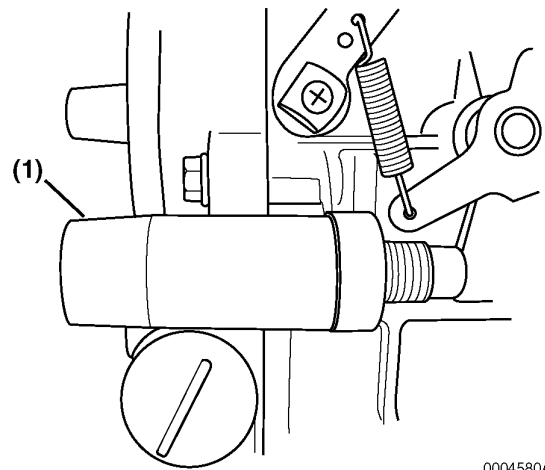

Figure 9-21
If the fuel limiter (**Figure 9-21, (1)**) is damaged, or it is obvious the fuel limiter adjustment has been tampered with, it will be necessary to replace and/or adjust the fuel limiter using the following procedure.